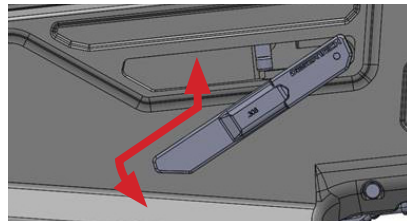

Fig. f-2
2. Rotate the magazine catch down. (Fig. f-2)
- Using a small flat tool, tap the back of the magazine conversion bar until it slides off. (Fig. f-2)